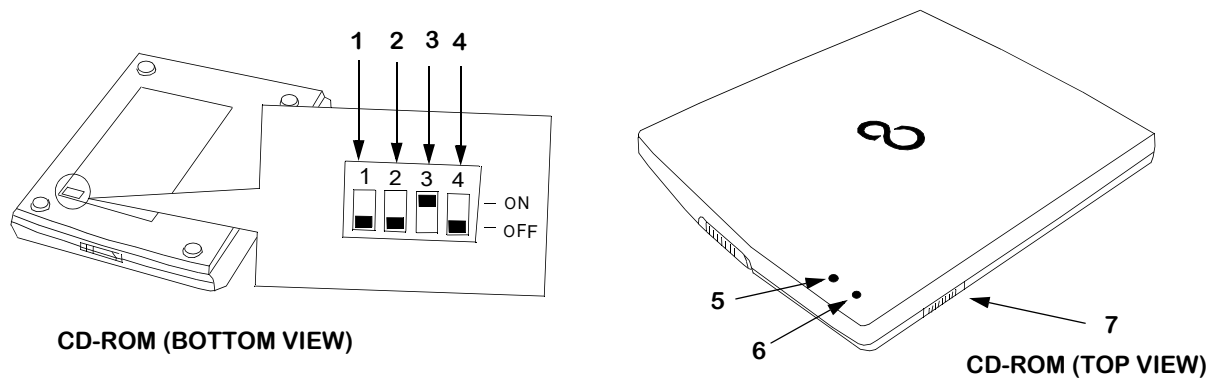

Figure 10 CD-ROM Drive Controls and Indicators
3.4 CD-ROM Drive. Refer to **Figure 10** and **Table 4** for explanation of controls and indicators for CD-ROM drive.